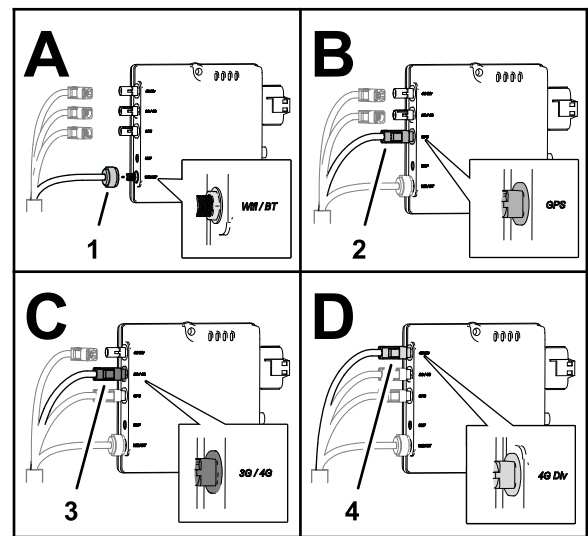

Figure 84
2. Plug the blue coaxial push-in connector of the modem-antenna harness labeled GNSS into the connector of the CL-55 modem marked GPS, until the connectors latch securely (Figure 84).
3. Plug the violet coaxial push-in connector of the modem-antenna harness labeled LTE-1 into the connector of the CL-55 modem marked 3G / 4G, until the connectors latch securely (Figure 84).
4. **CDMA Modems Only:** Plug the red coaxial push-in connector of the modem-antenna harness labeled LTE-2 into the connector of the CL-55 modem marked 4G Div, until the connectors latch securely (Figure 84).
1. Plug the coaxial connector of the modem-antenna harness labeled WiFi into the coaxial port of the CL-55 modem marked WiFi/BT, and tighten the coaxial connector (Figure 84).